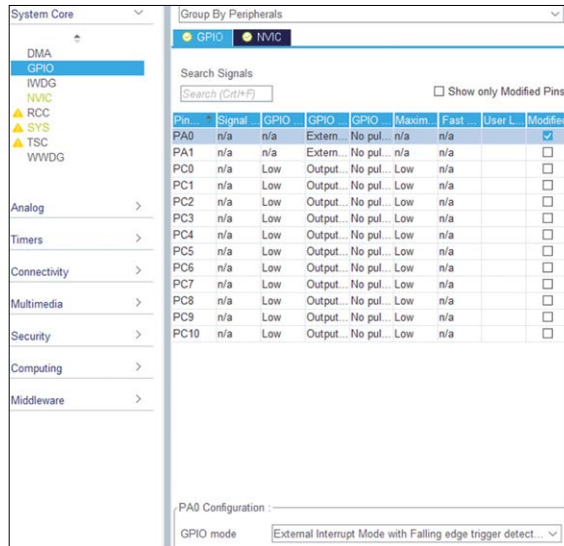

Figure 5.82: Configure falling-edge detection.
- Click **System Core**, followed by **GPIO** and then click on PA0 and set the **GPIO mode** to **External interrupt mode with falling edge trigger detection** (Figure 5.82).